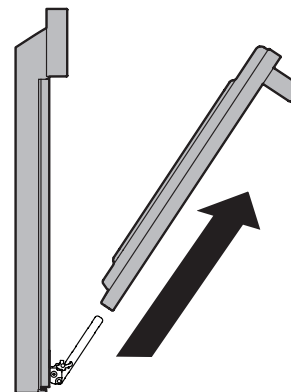

Figure 25: Remove the door
4. Pull the door toward you while rotating the top of the door toward the appliance to completely disengage the hinge levers (Figure 25).
1. Firmly grasp both sides of oven door along the door sides. Do not use the oven door handle (Figure 25).